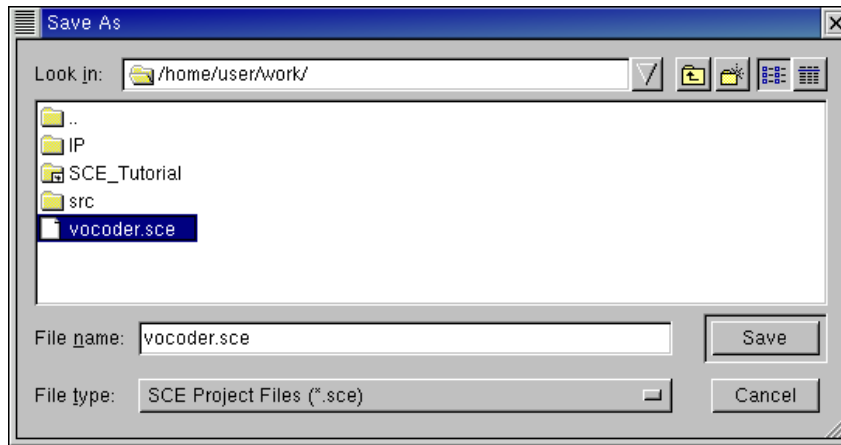

Figure 18: Project Save dialog.
- (b) Users can save the current project under any (new) name by selecting *Main :: Project ⇒ Save As*. The selection will pop-up the Project Save dialog in which user can choose the directory and file name to save the project under. The screenshot of the Project Save dialog is displayed in Figure 18.